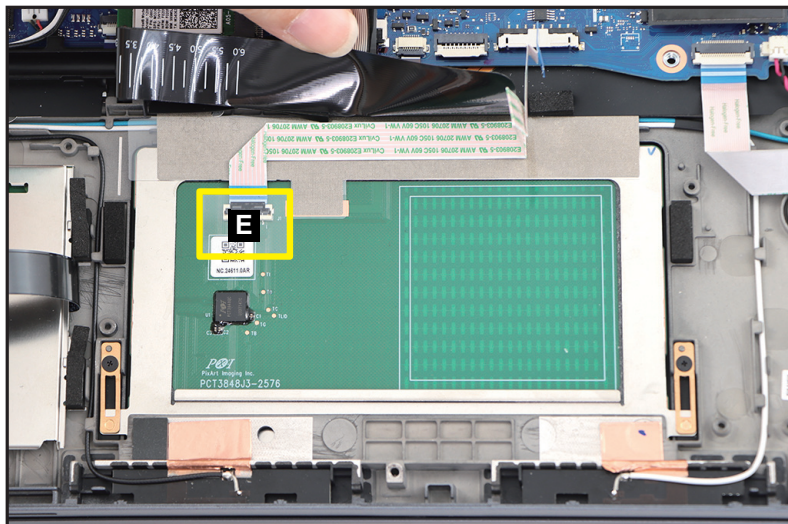

Figure 1-58. Touchpad Module Removal
4. Slightly detach and lift the mylar. Then detach the mylar (E) securing the touchpad FFC connection (Figure 1-58).